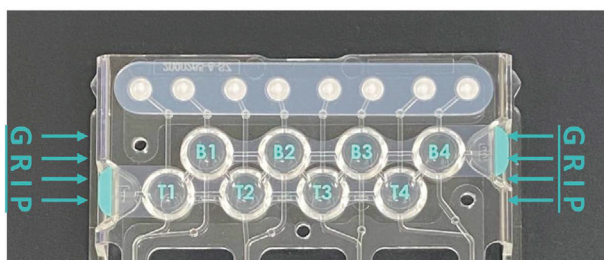

Figure 1: EOS-4 outlet wells and grip points
10. Retrieve the cartridge and place it on a flat surface. Hold the cartridge firmly at the designated grip points (see Figure 1), then remove the outlet well covers to collect the output samples. The viably enriched cells are located in the top wells (**T1–T4**), while waste is collected in the bottom wells (**B1–B4**).